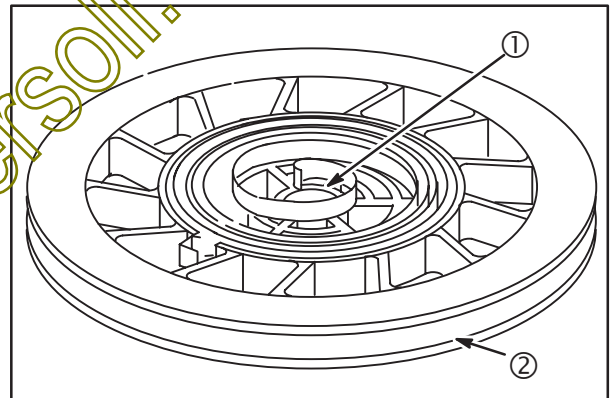

Fig. 58
Inspect pulley for wear, cracks, rough edges or burrs in pulley groove (2) and wear on center hole (1), **Fig. 58.** Replace pulley if damaged or worn.